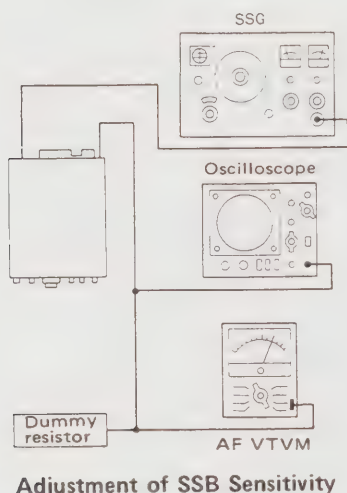

Fig. 36
- (2) For Connections refer to **Fig. 36**.
- (3) Adjust T-4, T-5, and T-6 of GEN unit for maximum reading